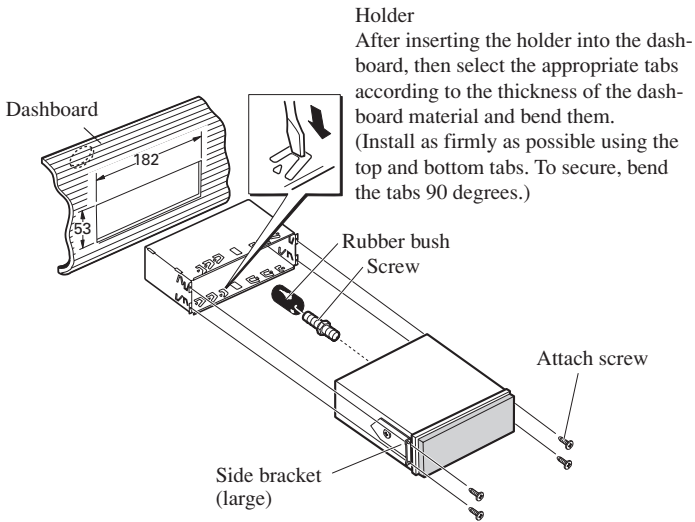

Fig. 11
3. Fastening the unit. (Fig. 11)